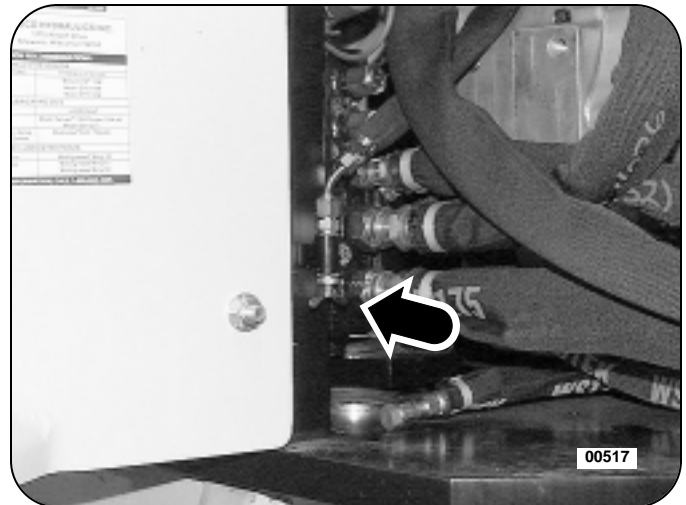

Figure 20: Turbo Boost Release Valve
1. Release turbo boost pressure at the turbo boost release valve. See Figure 20.